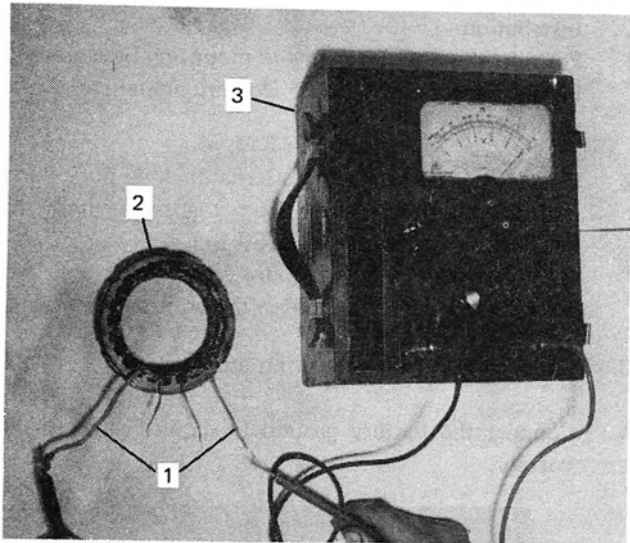

Figure 10
2. Check the conduction between the stator coil terminals as shown in Figure 10. If conduction does not exist between the terminals, replace the stator coil assembly.